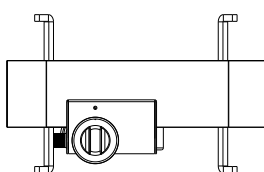

Figure 1
- The starting position is as in "Figure 1".